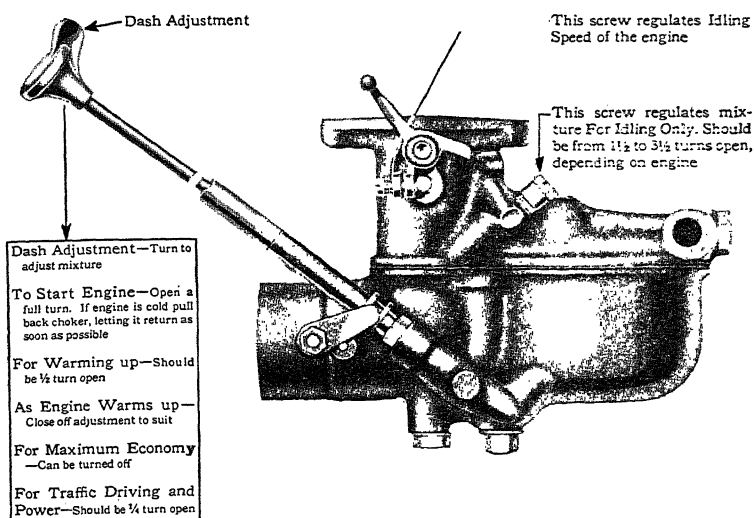

Fig. 67. Chart of Adjustments on Ford Model "A" Car Carburetor
*Dash Adjustment.* The dash adjustment, Fig. 67, is a choke and screw adjustment. The choke is spring returned so that after the engine is started, the butterfly in the air passage in the carburetor is in wide-open position. The screw feature of the dash adjustment is so designed that it may be turned several turns from its seat in order to keep a cold engine running without bucking. As soon as the engine starts to warm up, the adjusting screw should